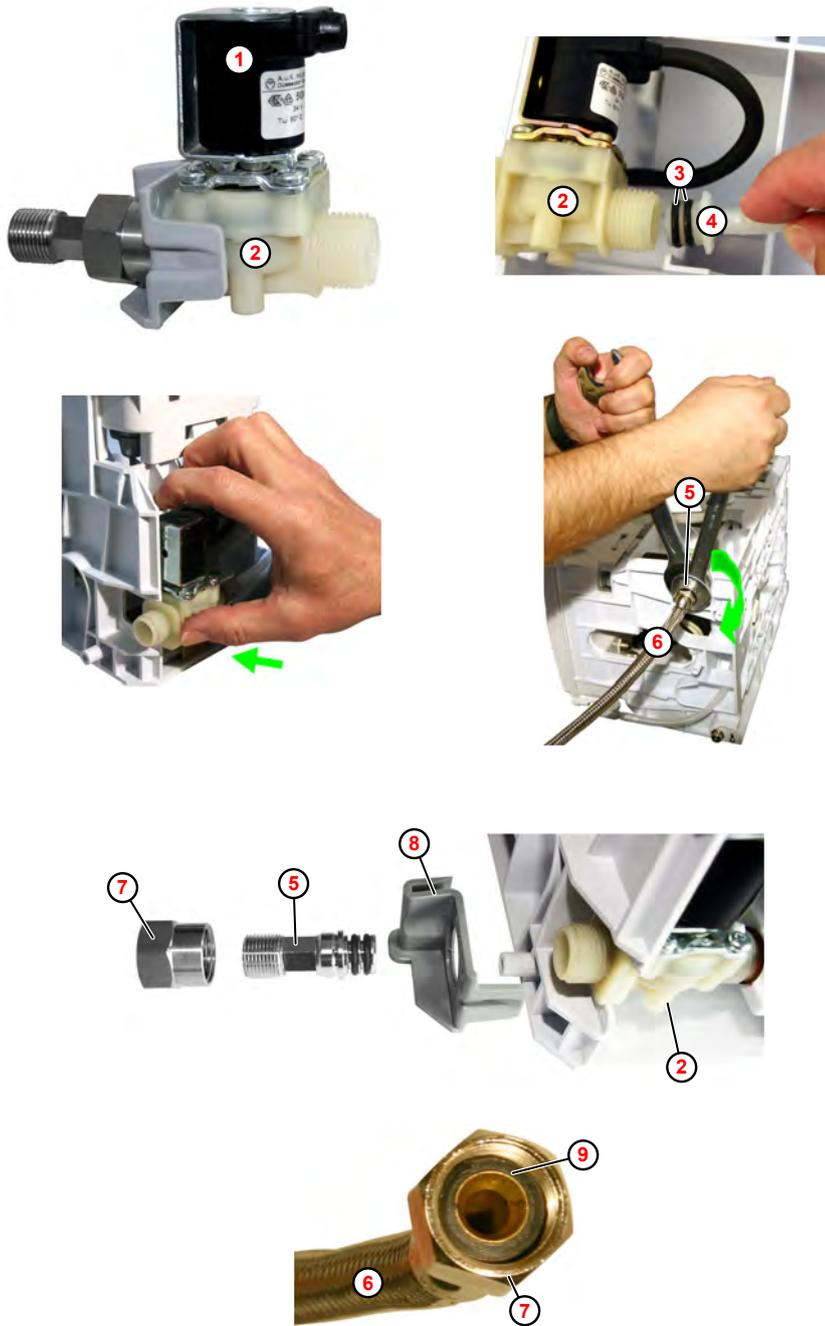

Fig. 19: Solenoid valve assembly
1. Press the coil ( Fig. 19 , 1 ) against the valve body (2) while turning it approx. 30° clockwise (to the right) until the coil audibly clicks into place.
2. Clean both O-rings (3) on their connecting nipples (4) using a lint-free cloth.
3. Guide the connecting nipple (4) into the valve (2) until it is flush with the valve housing.
5. Attach the fastening element (8) to the valve body and housing.
6. Carefully insert the connection adapter (5) into the valve body (tight).
7. Screw the union nut (7) onto the valve body.
8. Screw the inlet hose (6) onto the connection adapter.